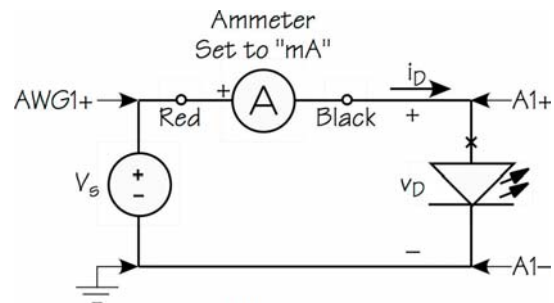
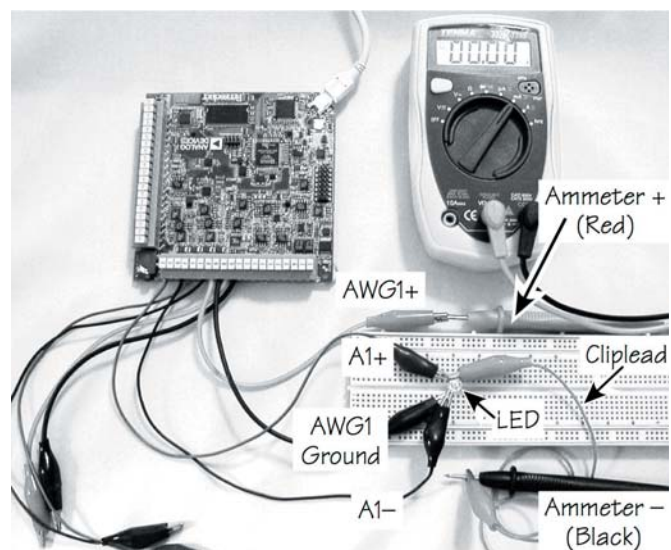

Fig. 1-LED test circuit
Fig. 2-LED test circuit layout
1. Build the circuit shown in Fig. 1. The photo of Fig. 2 will perhaps be of help. Notice the following:
The LED is staked into the breadboard with its longer lead (the + lead) at the top, which is the X in Fig. 1.